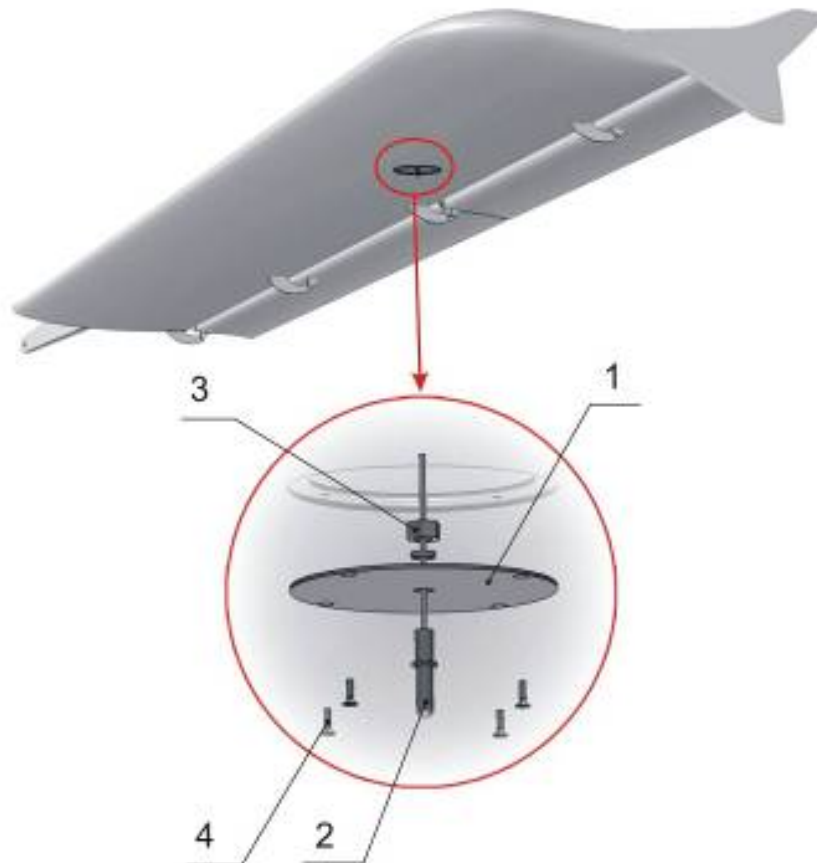

Fig. 57-00-23
B. Access Panel Removal and Installation (Fig. 57-00-23).